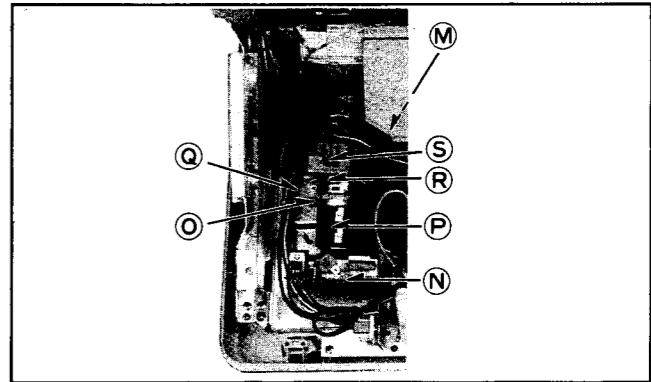

Fig. 13
- 3) Remove the anode lead **M** from the high voltage distributor shown in fig. 13.
- 4) Remove the LR printed circuit board **N** in fig. 13.
- 5) Remove the retaining screw of the neck shield **O** and remove the neck shield **P** in fig. 13.
- 6) Remove the retaining screw of the deflecting coil **Q** and draw out the centering magnet **R** and the deflecting coil **S** in fig. 13.